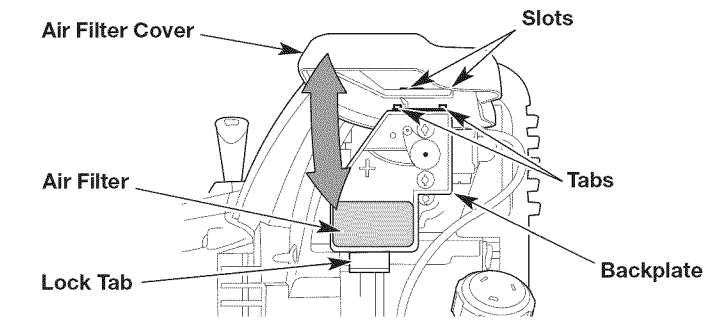

Fig. 23
1. Open the air filter cover: press in the lock tab and swing the air filter cover up (Fig. 23).
2. Remove the air filter (Fig. 23).
6. Reinstall the air filter (Fig. 23).
7. Close the air filter cover: insert the tabs on the backplate into the slots on the air filter cover. Swing the air filter cover down and press it closed until the lock tab snaps into place (Fig. 23).